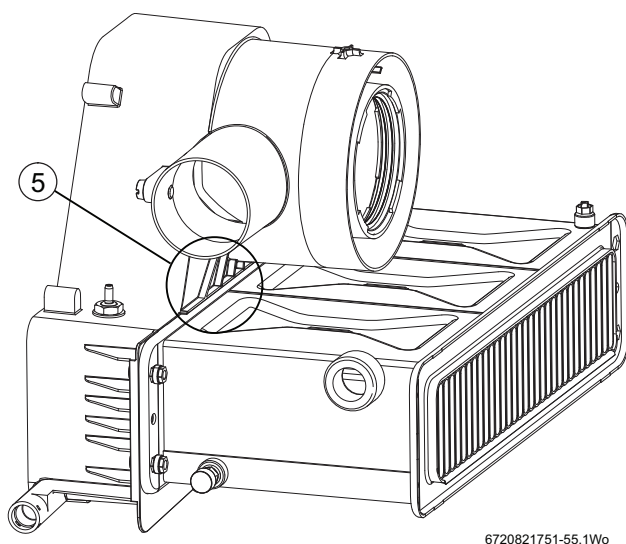

Fig. 55 Locate lip of flue manifold
- With lower edge of the flue manifold in place, rotate the manifold up to the heat exchanger ensuring that the lip [5] on the flue manifold is on top of the heat exchanger as shown in figure 55.